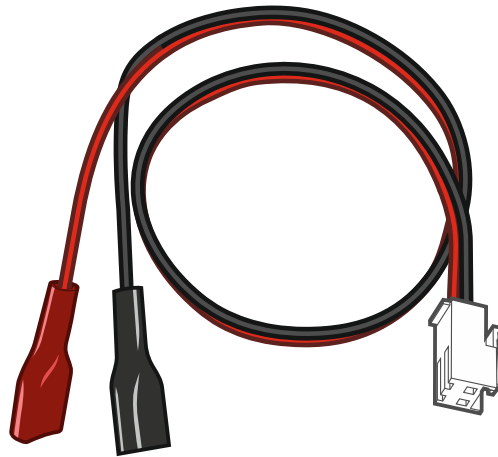

Fig. 2. Battery connection wires (red +, black -).
- ② RESET pins for emergency starting the control panel (see: “Emergency procedure of the control panel start-up” p. 13).
- ③ RS-232 (TTL) port.
- ④ connector for battery connection wires. The wires are included in the set (Fig. 2).
- ⑤ cable terminated with an antenna connector. If the control panel is installed in a plastic enclosure, you can use an antenna that can be installed inside the enclosure. If the control panel is installed in a metal enclosure, use an antenna that can be installed on the enclosure or at a certain distance from the enclosure.
- ⑥ SIM1 LED. The LED is on, when the card installed in the SIM 1 slot is active.
- ⑦ SIM2 LED. The LED is on, when the card installed in the SIM 2 slot is active.
⑧ SIM1 slot in which the first SIM card is to be installed.
⑨ SIM2 slot in which the second SIM card is to be installed.
⑩ communication connector for connecting the PERFECTA-RF module.
⑪ mini-jack socket for connecting microphone.